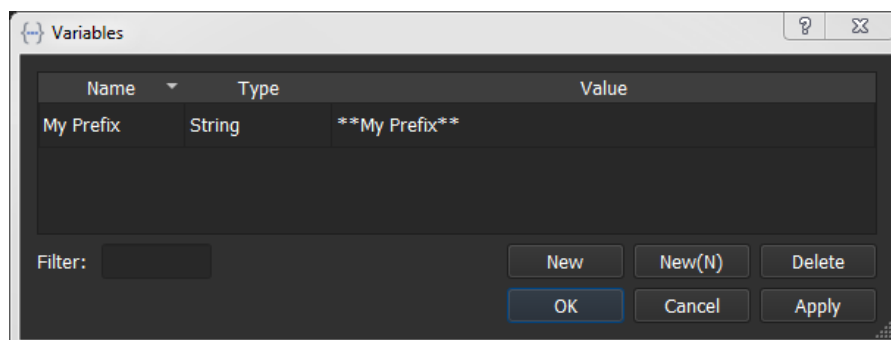

Fig. 10-12: Variables Dialog
- 3 In the **Variables** dialog, create a new variable called 'My Prefix' and set its value to '**My Prefix**'. See Figure 10-12.